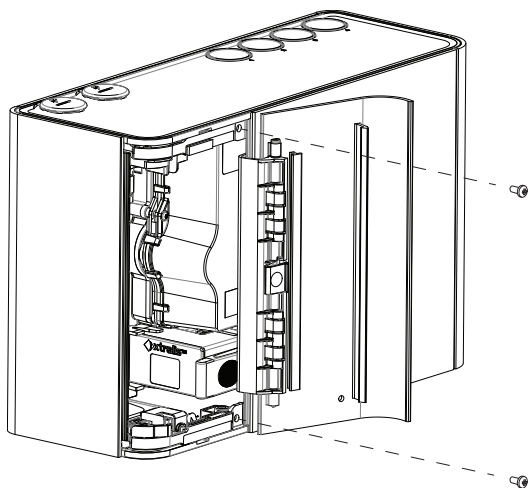

Figure 7-8: Fascia removal - remove screws
2. Remove the two screws along side the door hinge, as shown below in Figure 7-8.